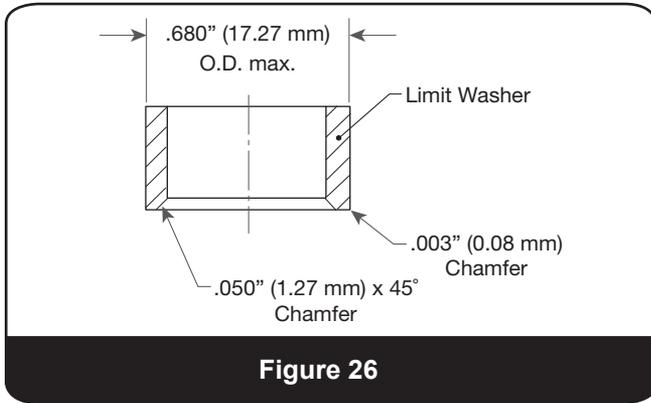

Figure 26
- B. *For bellows valves, the limit washer must also be chamfered on the lower O.D. as shown in Figure 26.*